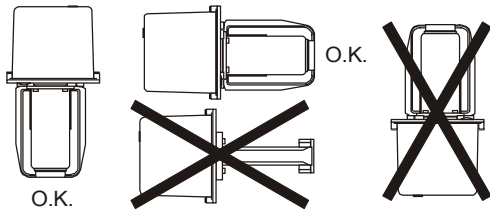

Figure 2: Proper Yoke Orientation
- Mount the valve in an upright position in a conveniently accessible location. When mounted horizontally, orient the yoke so that the yoke supports are positioned vertically, one above the other (as illustrated in Figure 2).